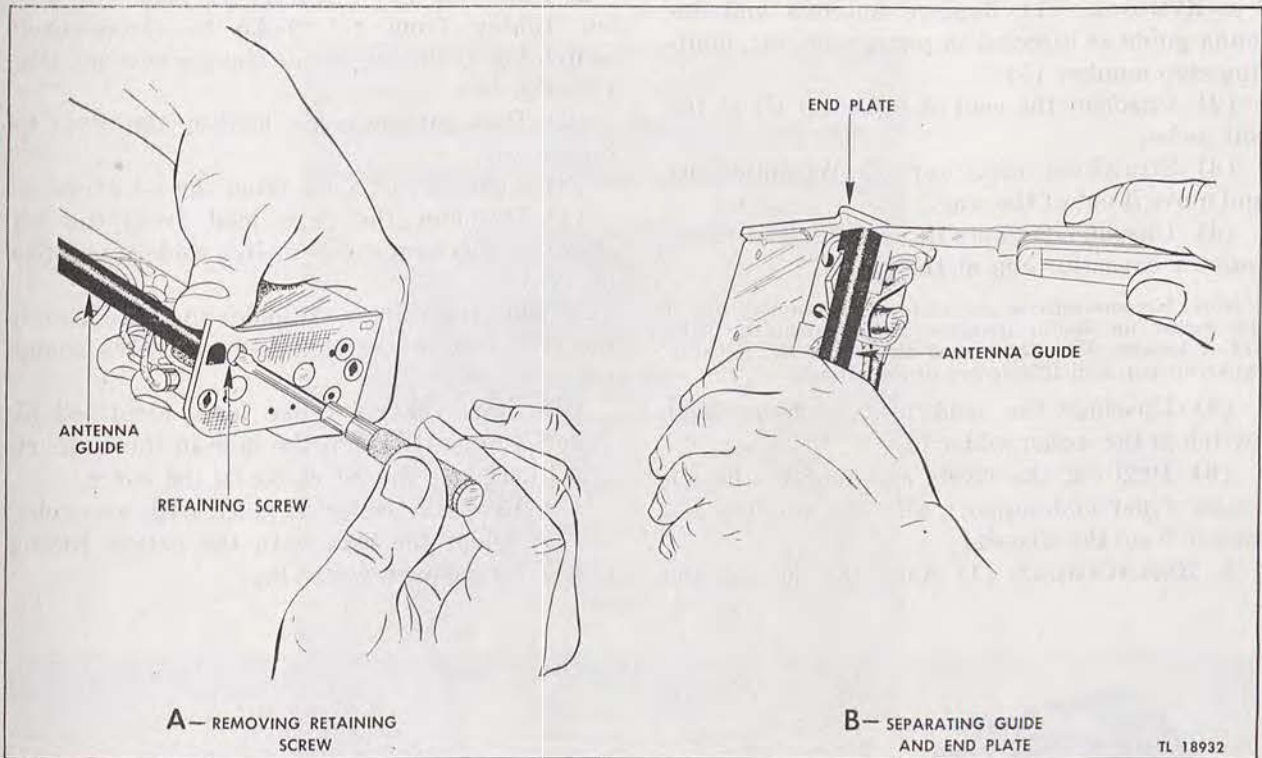

Figure 44. Antenna removal, Radio Receiver and Transmitter BC-611-(\*).
*a. REMOVAL.* (1) Remove antenna insulator support assembly as indicated in paragraph 36*a*.
(2) Remove antenna guide retaining screw, as indicated in figure 44*A*.
(3) Place knife blade or a thin screw driver between the antenna guide and chassis end plate, and separate the guide locating plug from the end plate locating hole. (See fig. 44*B*.)